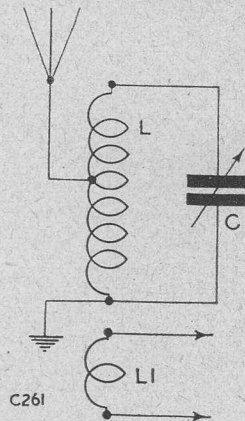

Fig. 4. Circuit for use with end-fed aerial. L is 8 turns on $\frac{3}{8}$ " diam. L1 is 2 turns on $\frac{3}{8}$ " diam. and C is 100 μ F
For an end-on type of aerial, Fig 4 must be used; about 8 turns of 16 SWG tinned copper wire tuned by a 100 μ F capacitor will be suitable.
Fig. 4 shows the circuits and procedure to adopt. First of all, we should try connecting a $0.01\mu\text{F}$ capacitor between one side of the mains input and the chassis of the set, preferably using the side of
the mains that is switched. See Fig. 4(a). (If an AC/DC set is used, the $0.01\mu\text{F}$ capacitor may be connected across the mains input.)
If this does not succeed in eliminating the mains modulation, we try *two* capacitors, as shown in Fig. 4(b). Should this not work, capacitors should be connected as shown in Fig. 4(c), between the anodes of the rectifier and chassis.
Finally, as a last resort, an $0.01\mu\text{F}$ capacitor can be connected between the cathode of the rectifier and chassis. See Fig. 4(d).
It must be pointed out that, of the cures mentioned above and shown in the diagrams in Fig. 4, only *one* is necessary, and not a combination of two or more of the circuits shown.
The capacitors used in Figs. 4 (a)–(c) should have a working voltage of at least 750 volts, preferably 1,000 volts, owing to the strain under which they work.
These remedies should shift the most obstinate of modulation hum troubles. It may happen, however, that with a tightly coupled aerial circuit, mains modulation may be caused at “the other end” of the receiver. In this case, a filter circuit for the aerial should be tried as in Fig. 4(e) or (f), using the circuit of Fig. 4(f) only after that of Fig. 4(e) has been tried.
Fig. 4. (a-d) Methods of adding capacitors to power unit circuits to combat modulation hum. Those capacitors shown in (a) to (c) should have a working voltage of at least 750, preferably 1,000 volts. The value of the additional capacitors is $0.01\mu\text{F}$.
Fig. 4. (e-f) In the very occasional cases where mains modulation is caused in the aerial circuit, the addition of components as shown in (e) and (f) will cure the trouble. Value of R is 5,000 Ω . L is the aerial coupling coil. "X" is the lead originally connected to aerial terminal.
- (a) Add capacitors to receiver circuit as shown in Fig. 4 (a—d), to find which application gives relief.
- (b) Add filter circuit to aerial stage as shown in Fig. 4(e) and (f).